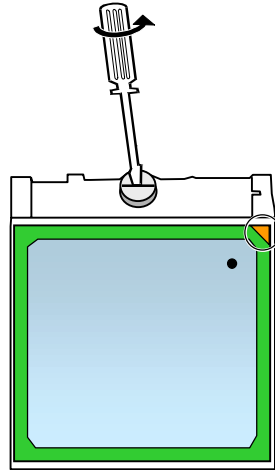

Figure 2-7 Remove the CPU
4. Loosen the screw by a flat screwdriver, upraise the CPU socket to unlock the CPU. (See Figure 2-7)